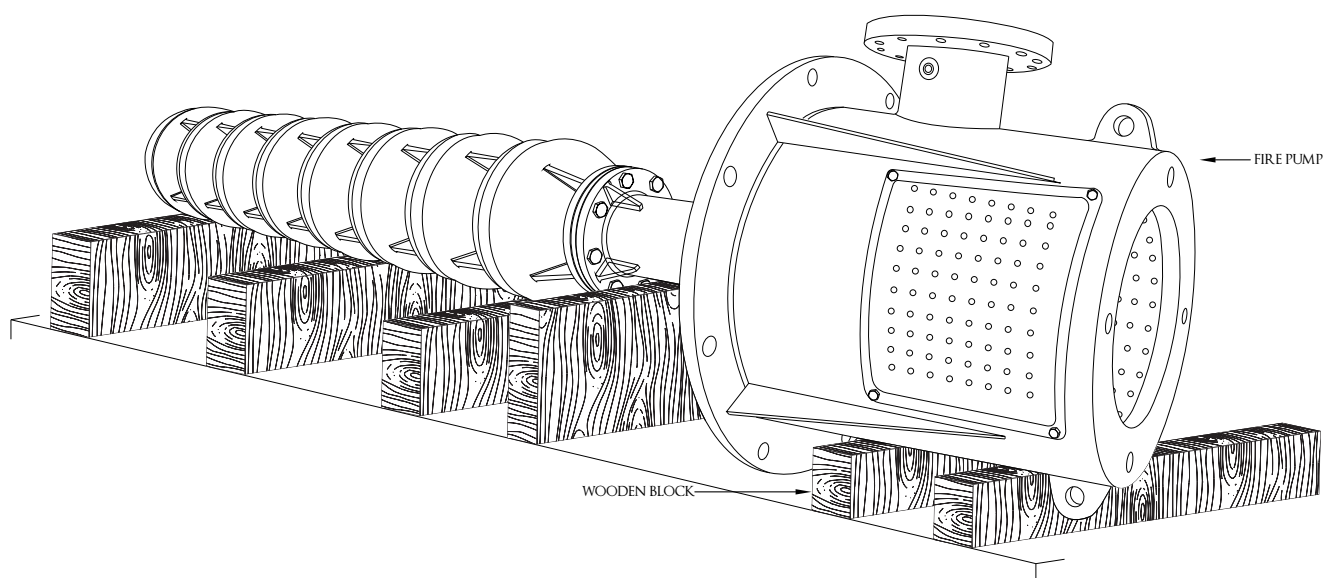

Fig. No. 21
- » Before proceeding further make sure that the discharge head, each column sections and bowl assembly are supported independently of each other using wooden blocks under them as shown in the Fig. No. 21.